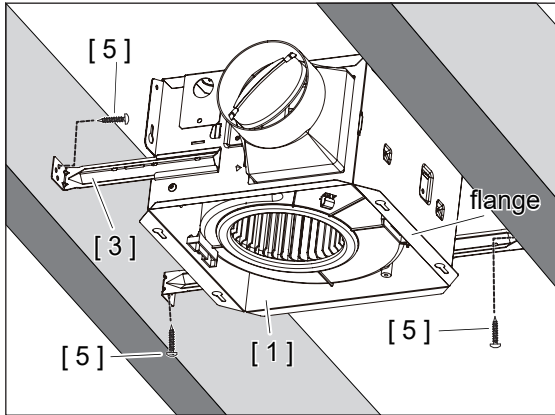

Fig 12
2. Insert the third Long Bracket [ 3 ] to the slot at the duct side of Fan Body [ 1 ] as figure shows. (Fig 12)
Note: Make sure the Fan Body [ 1 ] is level and perpendicular with the joist, and flush with the surface of the joists which are connected to the ceiling surface. (Fig 12)
4. Secure the brackets to joists with Long Screws [ 5 ]. (Fig 12)